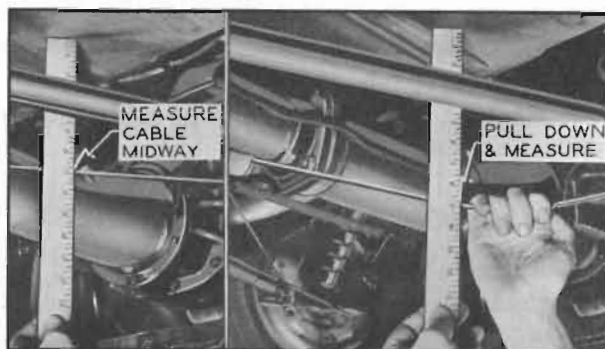

Figure 9-9—Checking Parking Brake Cable Adjustment
2. With parking brake lever fully released, check rear brake cable for proper amount of slack by pulling down on one side of cable midway between conduit clip and cable sheave. If properly adjusted, cable can be pulled down approximately 2 inches from its normal position. See figure 9-9.